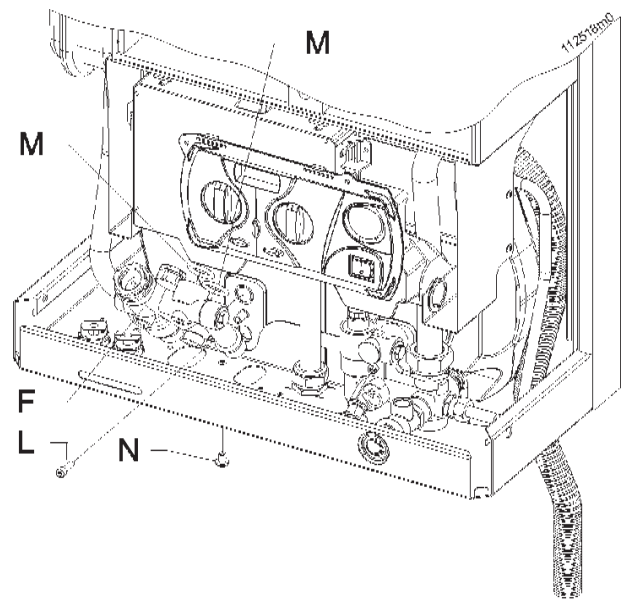

Figure 52 - 3-way valve body removal
- remove the 3-way valve body, "F", taking care not to loose the o-rings, "M", figure 52;
- during reassembly, take care to properly position the o rings, "M", figure 52;